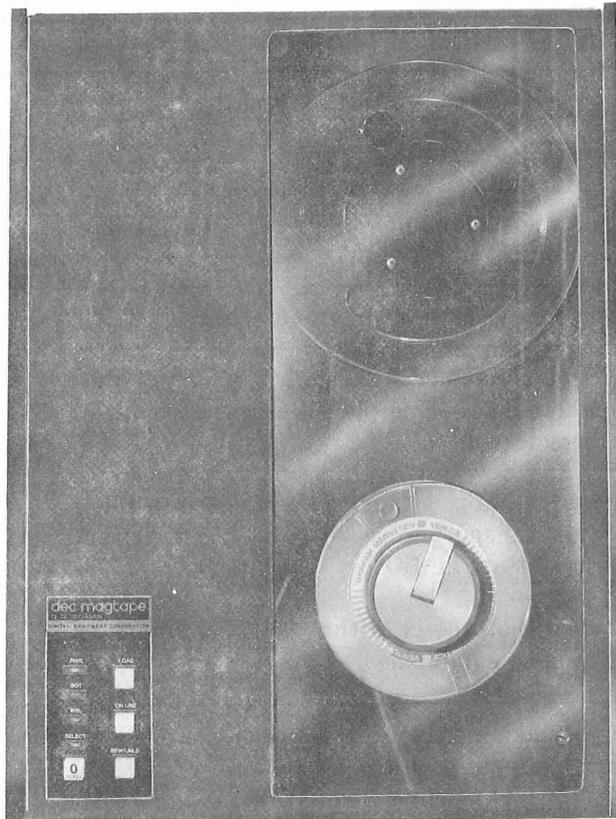
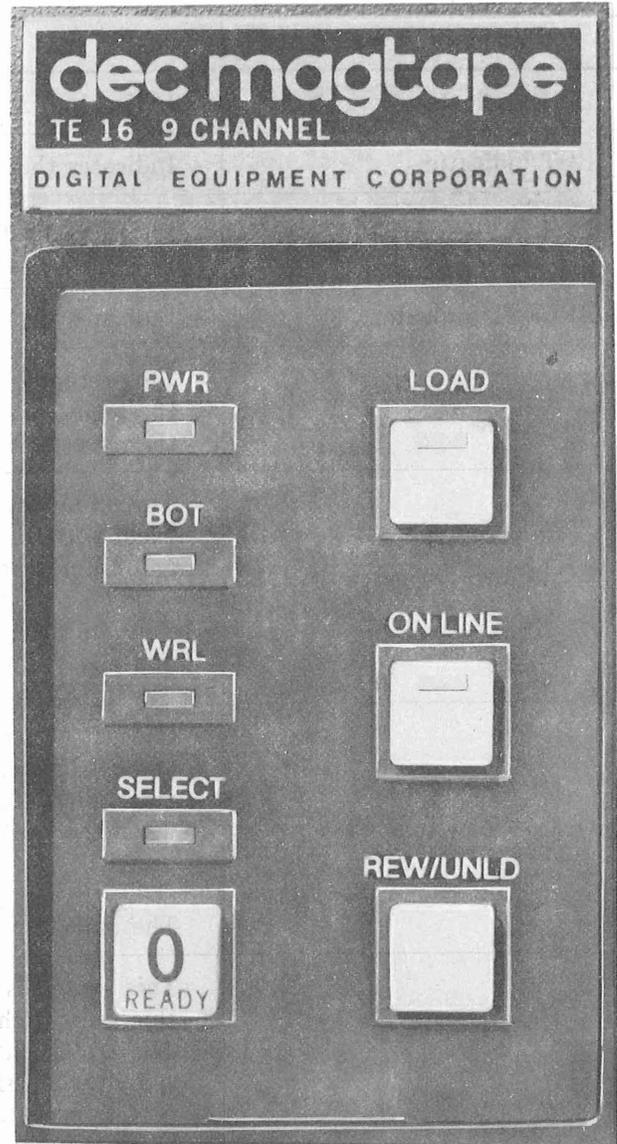

Fig. 7—TE16 Magtape Unit
Fig. 8—TE16 Magtape Controls and Indicators
5.01 The TE16 magtape unit is shown in Fig. 7. Controls and indicators are shown in Fig. 8 and listed in Table B. Associated with each control or